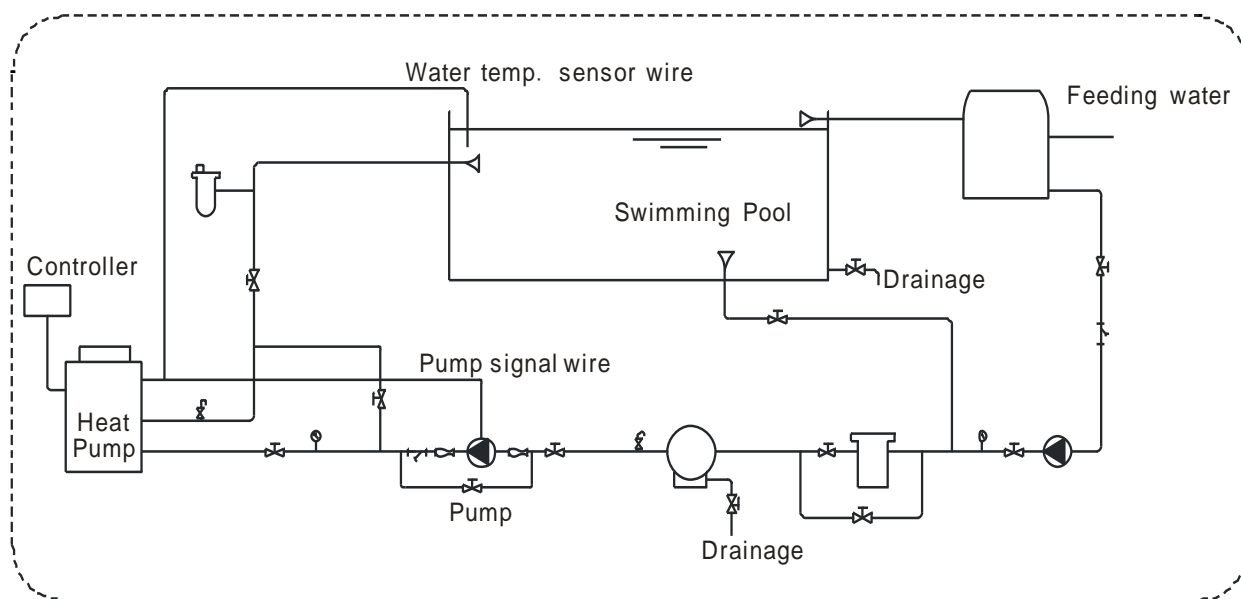

Figure 8 Diagram (Single unit for reference)
- The pannier is absolutely forbid to touch the flow switch floor, or the switch will be deformed and invalid, (Figure 8)